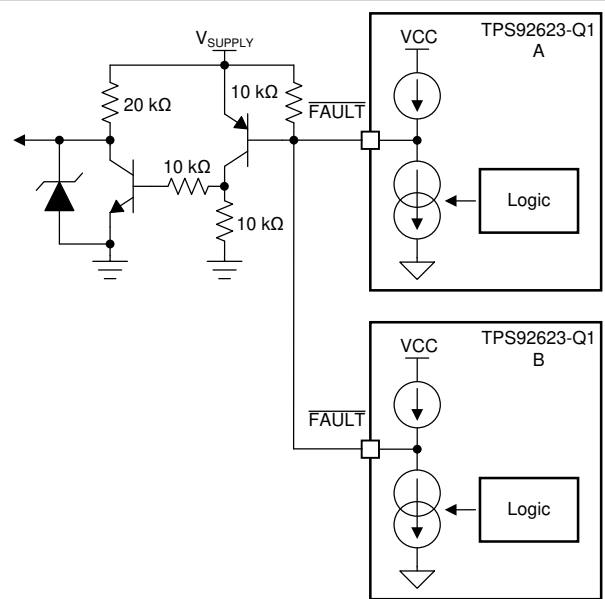

Figure 7-7. FAULT Bus for One-Fails-Others-On Application
is detected by upper side TPS92623-Q1 (A) because the $\overline{\text{FAULT}}$ pins are connected of two devices. The upper side TPS92623-Q1 (A) turns off all output current for each channel as a result. If the $\overline{\text{FAULT}}$ pins of each TPS92623-Q1 are all connected to drive the base of an external PNP transistor as illustrated in Figure 7-7, the one-fails–all-fail function is disabled and only the faulty channel device is turned off.